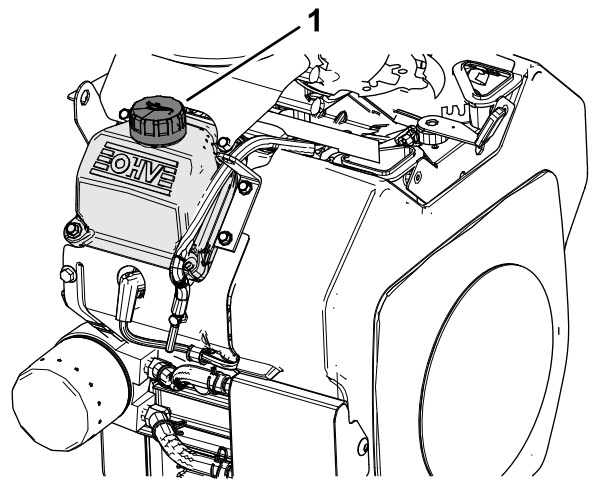

Figure 32
6. Slowly pour approximately 80% of the specified oil into the filler neck (Figure 32) of the valve cover; refer to Engine Oil Specification \(page 27\).